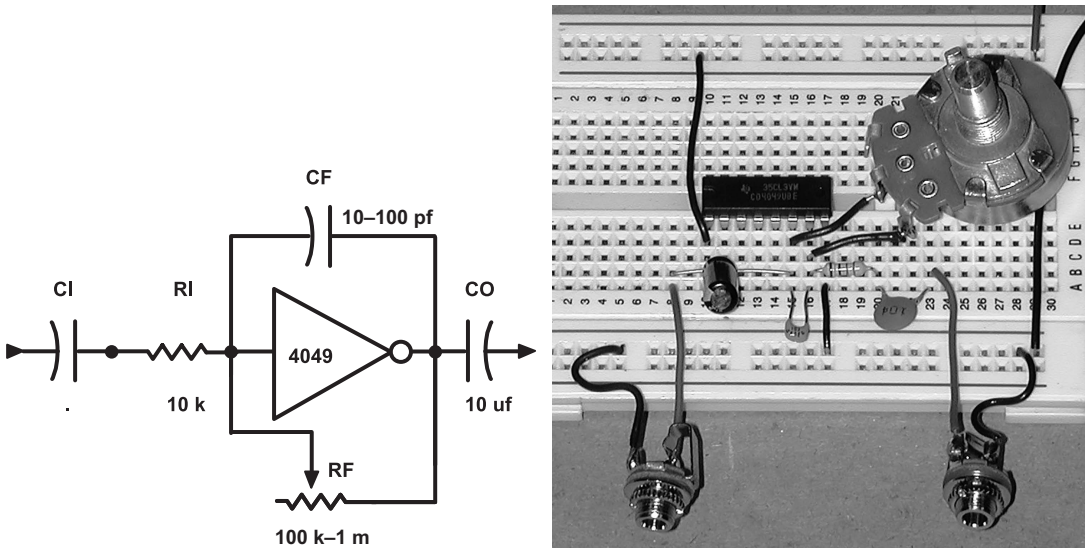

Figure 19.4 Adding a feedback capacitor.
You may notice some noise or high-frequency oscillation at high gain. You can minimize these artifacts by putting a *very* small feedback capacitor (CF) in parallel to the feedback resistor as shown in Figure 19.4. Try values in the range of 10–100 pf (picofarad)—the “small” 0.1 uf capacitors we have been using in our oscillators are way too big.